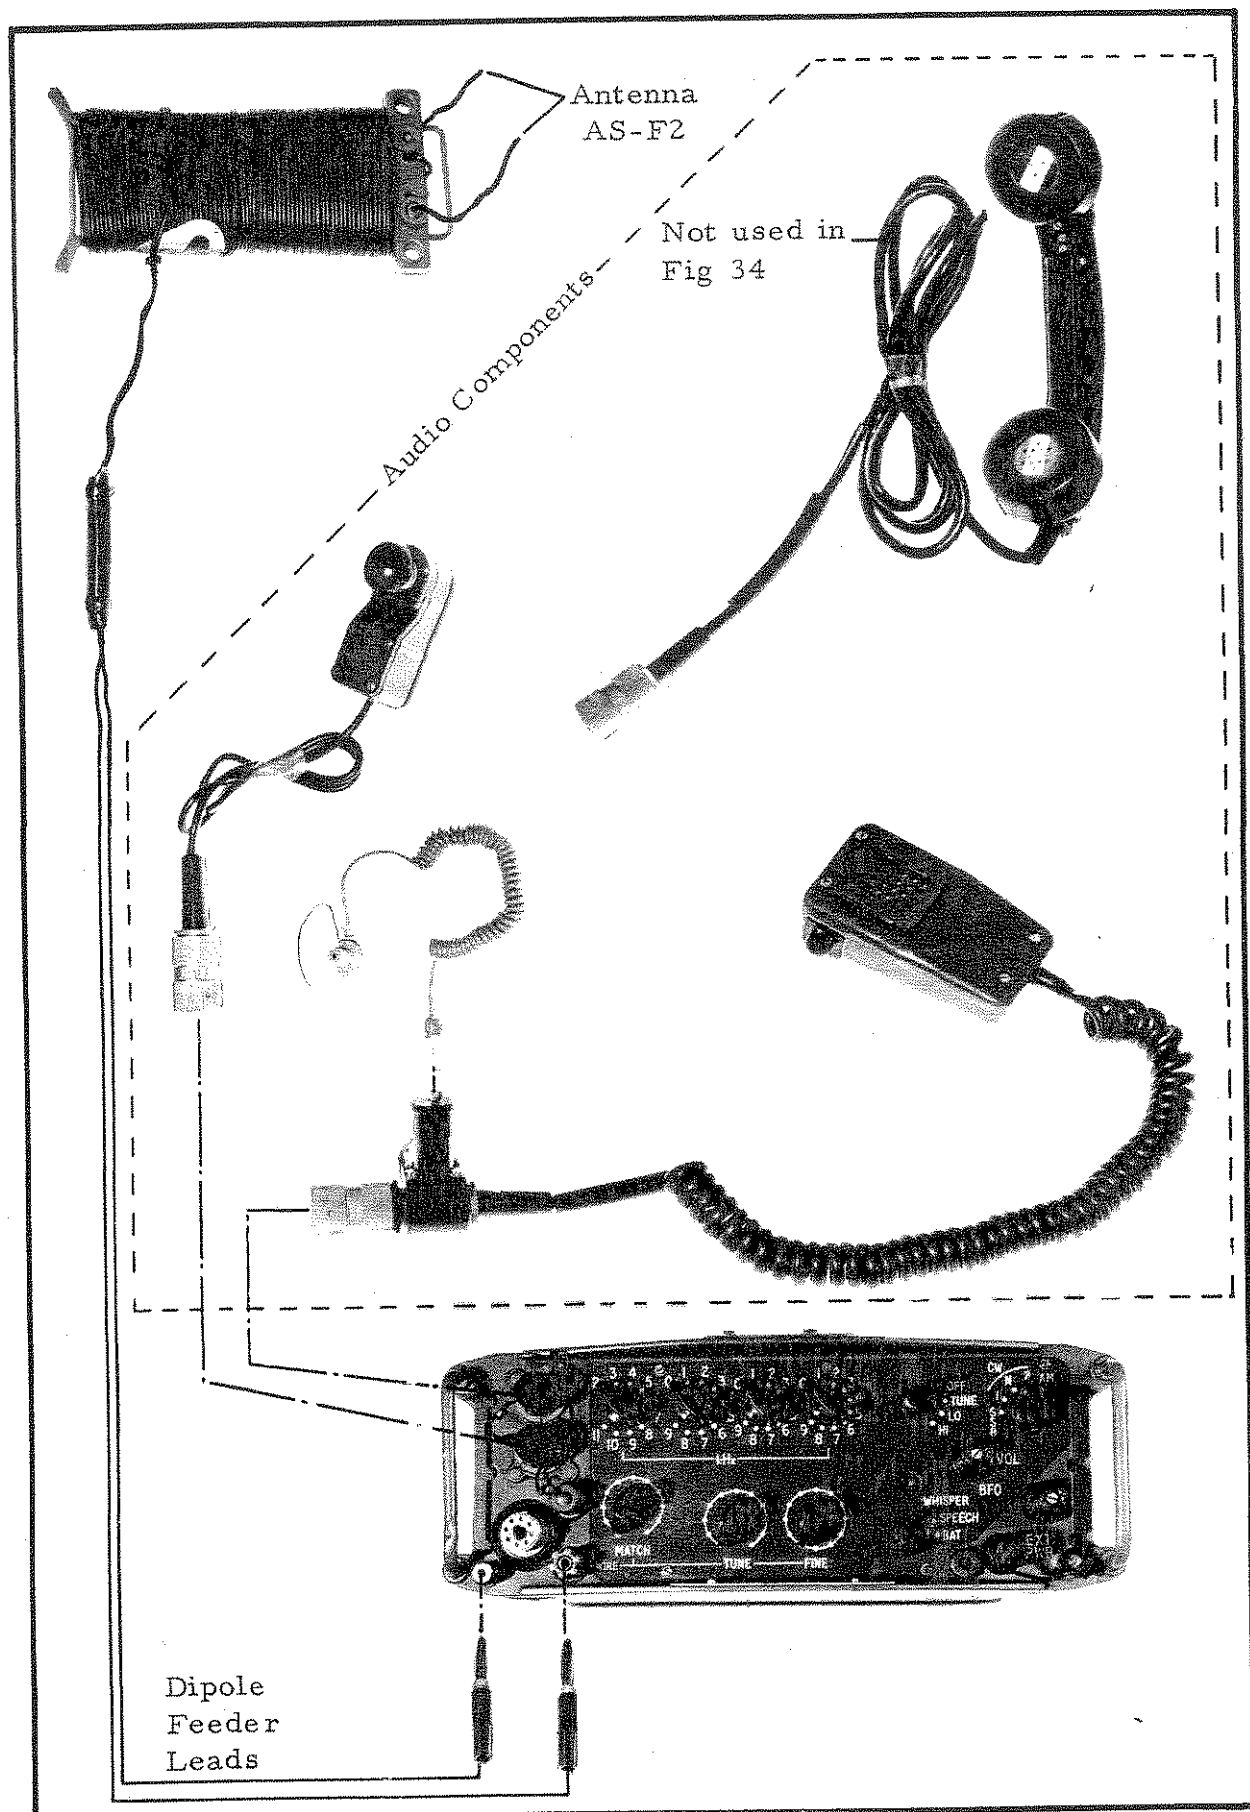

FIG 32
96. Audio Components. These are the Key Telegraph, KY-116/U and the Headset, H-233/PRC. They can only be connected to the receiver-transmitter by inserting the plug on the integral cable of each component into the jack fitted in each of the two branched ends of the Cable Assembly, CX-F15 (see preceeding para). If desired audio components of the Radio Set, PRC-F1 or F3 can be used as described in para 79 and 80, and as illustrated in the ground station in Fig 32 (Handset, H-F2).